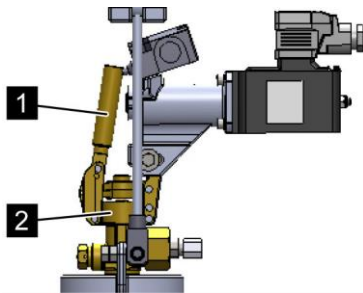

Fig. 155: Unscrewing the valve lever
11. ➤ Screw the valve lever (Fig. 155/1) onto the valve (Fig. 155/2) of the pilot cylinder again.